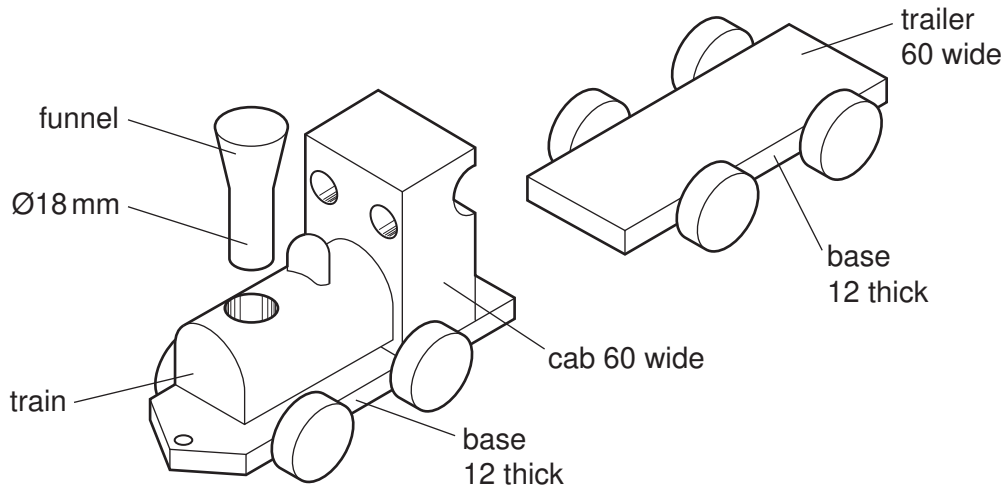

Fig. 4
- 11 Fig. 4 shows a toy train and trailer made mainly from beech. The funnel is shown removed from the body of the train.